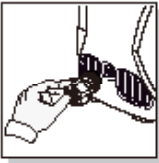

Fig.11
- Attach collar of garden hose adapter directly to power washer water inlet. Hand tighten (Fig. 11).